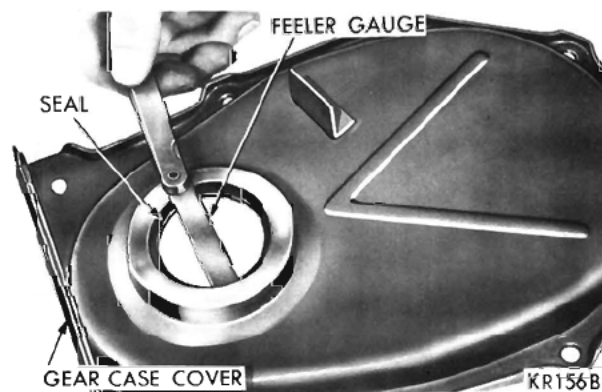

Fig. 93—Measuring Seal for Proper Seating
(5) The seal is properly installed when neoprene is tight against the face of the cover. Try to insert a .0015 feeler gauge between the neoprene and the cover (Fig. 93). If this seal is installed properly, the feeler gauge cannot be inserted. It is normal to find particles of neoprene collected between the seal retainer and crankshaft oil slinger after the seal has been in operation.